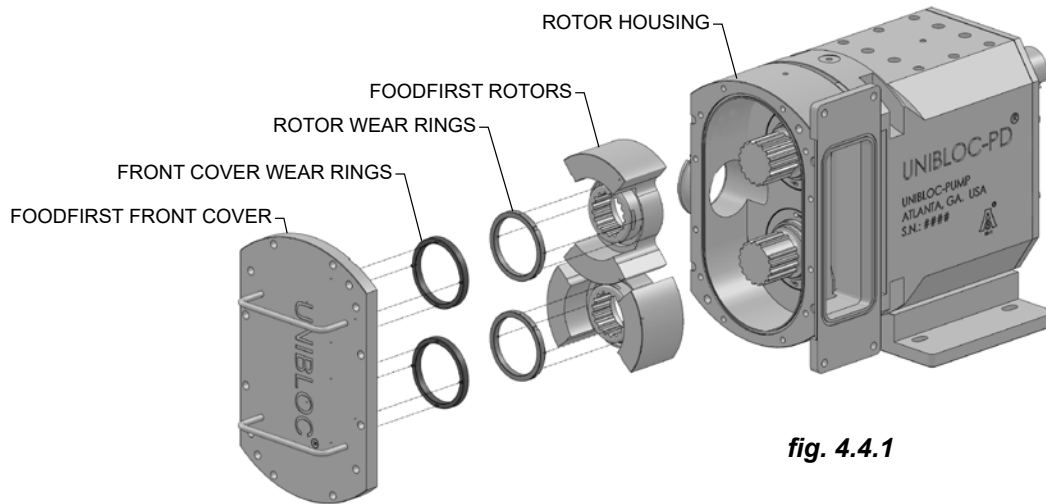

fig. 4.4.1
4.4.1.4.3 FoodFirst Rotor Removal (reference fig. 4.4.1)
4.4.1.4.6 FoodFirst Rotor Installation (reference fig. 4.4.1)